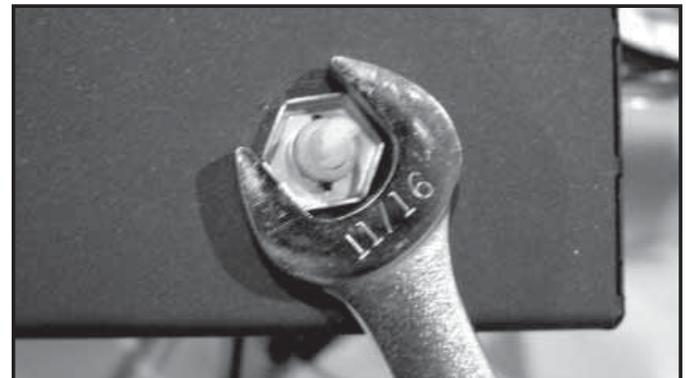

Figure 17
6. Install the speed control (rheostat). The speed control mounts to the decorative cover removed in Step 5. Insert the stem of the speed control through the hole located on the right side of the cover. Secure with the pal nut using an 11/16" wrench. See Figure 17.